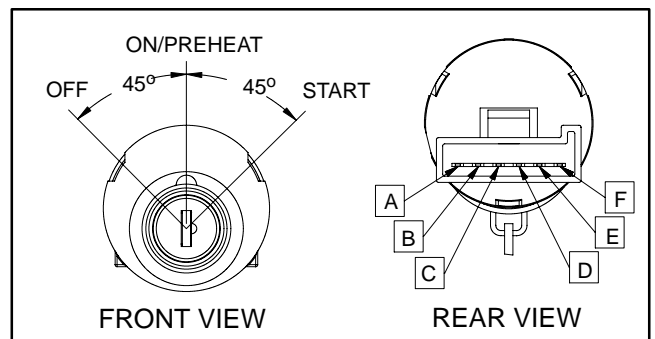

Figure 13
5. The ignition switch terminals are identified as shown in Figure 13. The circuit logic of the ignition switch is shown in the chart below. With the use of a multimeter (ohms setting), the switch functions can be tested to determine whether continuity exists between the various terminals for each switch position. Verify continuity between switch terminals. Replace switch if testing identifies that switch is faulty.